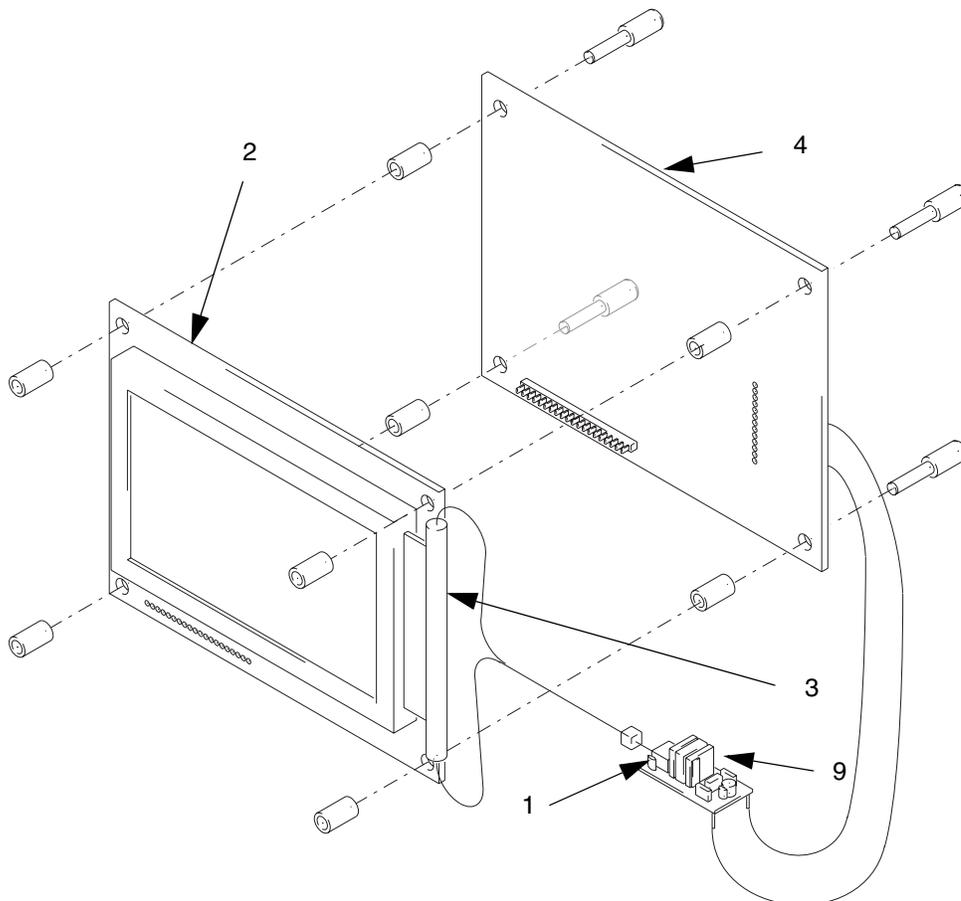

Fig. 25
Before replacing the backlighting, check the inverter (9) for proper voltage by unplugging the backlighting connector (1), turning on the PFlo LT and carefully measuring the AC voltage across the two pins of the inverter. See FIG. 25. Voltage should read approximately 700 VAC. If not replace the inverter.
4. Unplug the ribbon cable from the board (4) by sliding it out of the connector. Note the position of the cable in the connector. The arrow indicates pin #1, reconnect later with pin #1 engaged.
5. Unplug the remaining connectors on the board and note their location. Unplug the connector (1) coming from the backlighting bulb.
8. Remove the two small screws holding the backlighting (3) to the display (2), and slide the backlighting out the side of the display.